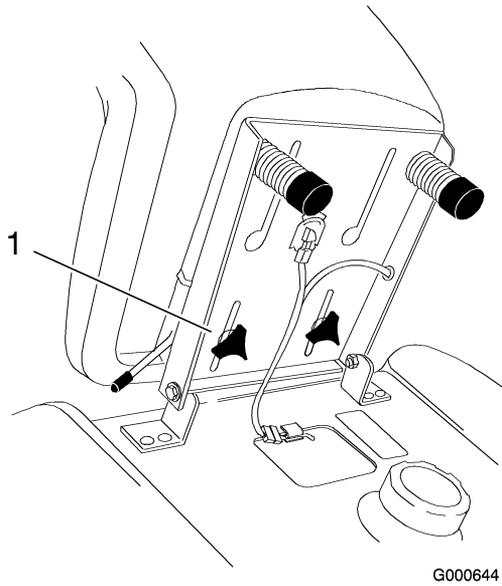

Figure 24
1. Raise the seat and loosen the adjustment knobs (Figure 24).